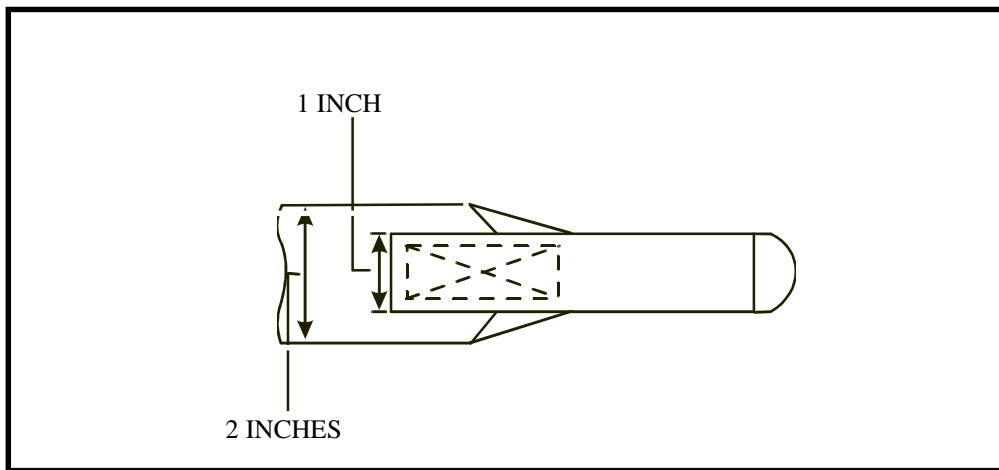

Figure 13-16. Angled-end strap
c. Angled-End Strap. A strap with an angled end (Figure 13-16) has corners which have been folded to meet at the center of the strap. The strap is finished by sewing a billet on top of the angled end or by sandwiching the angled end between the two layers of a chape and sewing the chape in place.